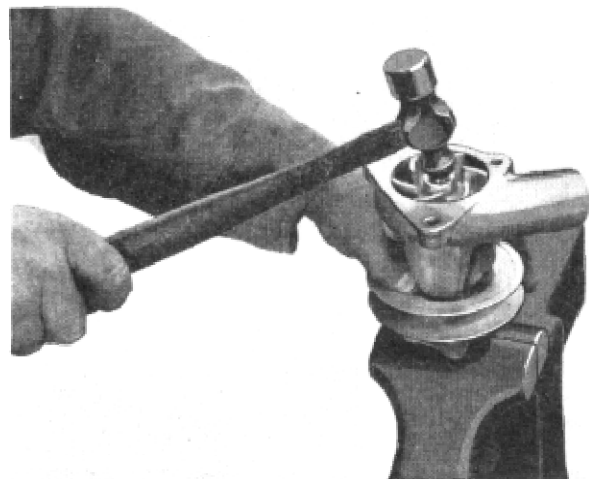

Figure 12
(13) Fig. 12—Rest water pump pulley on anvil of vise. Peen impeller end of shaft with a ball peen hammer.